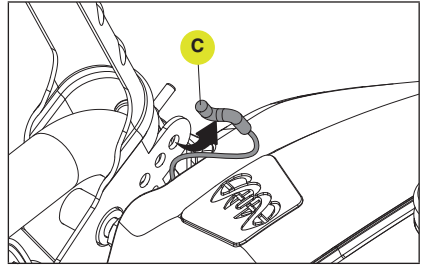

Figure 56
- Unhook the connector (C) in the control handle. You may have to move the control handle to make this easier to remove. (Fig. 56)